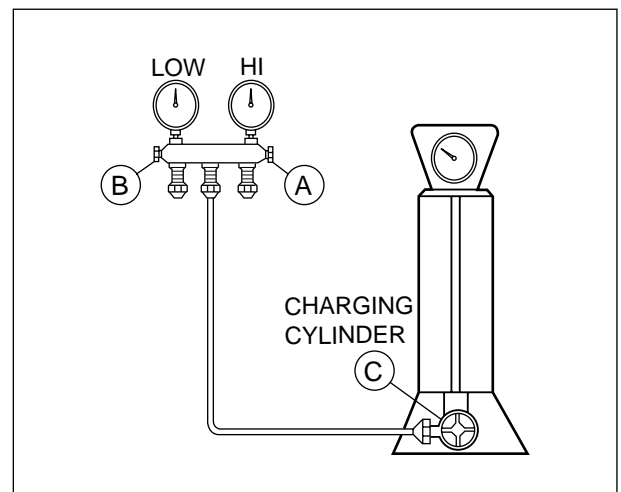

Figure 16B-Charging
- 4) Remove the hose from the vacuum pump and place it on the charging cylinder. See Fig. 16B. Open valve C.
- 2) Connect the charging cylinder as shown in Fig. 16B. With valve C open, discharge the hose at the manifold connection.